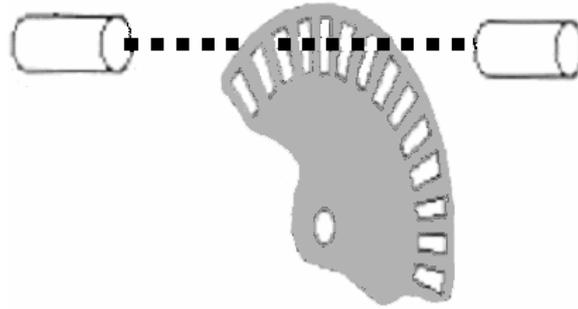

Figure Q7
- (a) Explain the basic operation of the optical encoder disk shown in Figure Q7 and describe how the output signal could be used to calculate the speed of rotation.